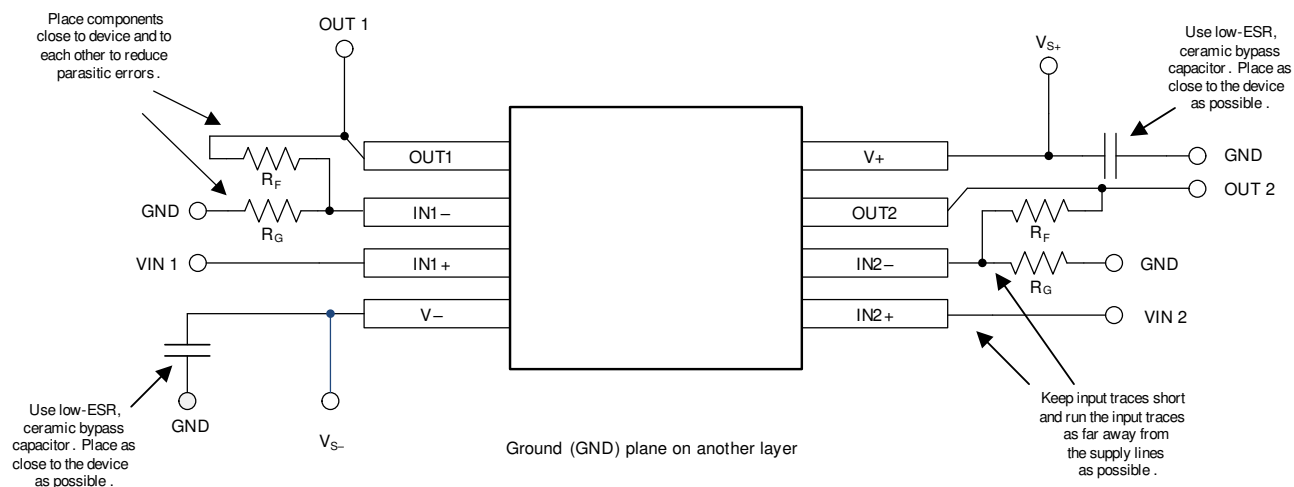

Figure 45. Layout Example
- Place the external components as close to the device as possible. As illustrated in Figure 45, keeping R_F and R_G close to the inverting input minimizes parasitic capacitance on the inverting input.